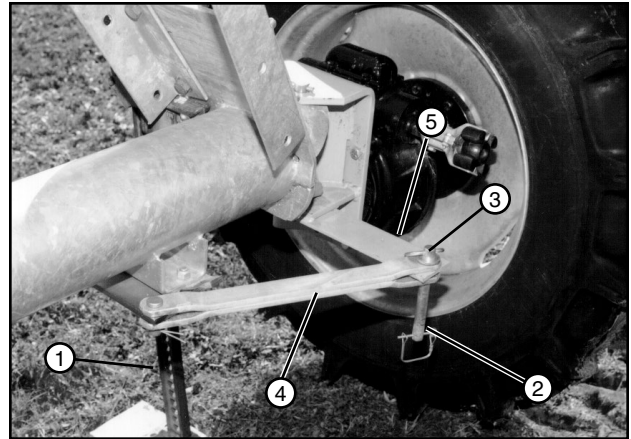

Figure 63-1 1. Jack
1. Use a jack to lift one side of the drive unit until the tire is off of the ground. See figure 63-1.
3. Remove the lynch pin from the torque pin, then remove the torque pin and disconnect the tow link bar from the steering arm. See figure 63-1.